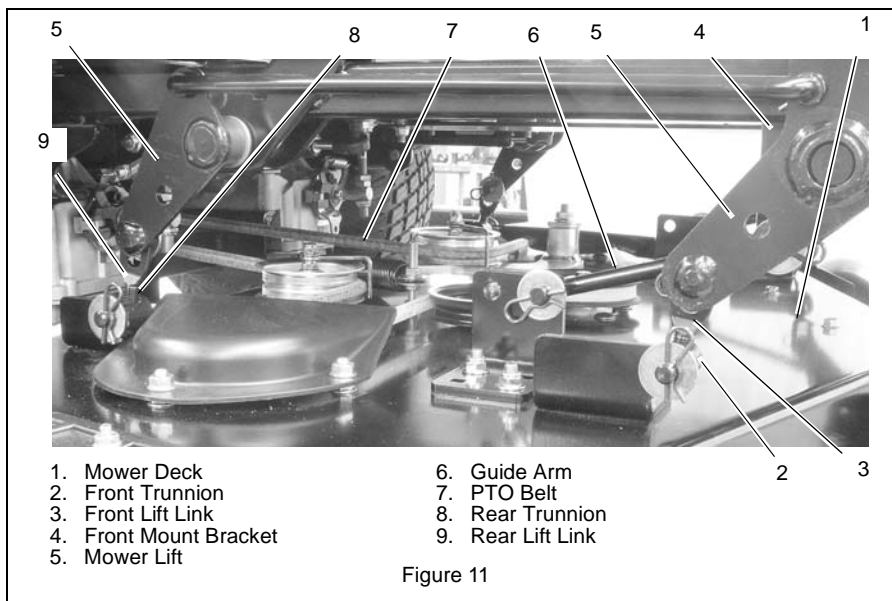

Figure 11
5. Remove rear lift link and rear trunnion from mower deck and mower lift (figure 11).
6. Install rear trunnion and rear lift link on mower deck and mower lift (figure 11).
5. Remove front lift link and front trunnion from mower deck and mower lift (figure 11).
6. Install front trunnion and front lift link on mower deck and mower lift (figure 11).
### Remove (Figure 11)
### Install (Figure 11)